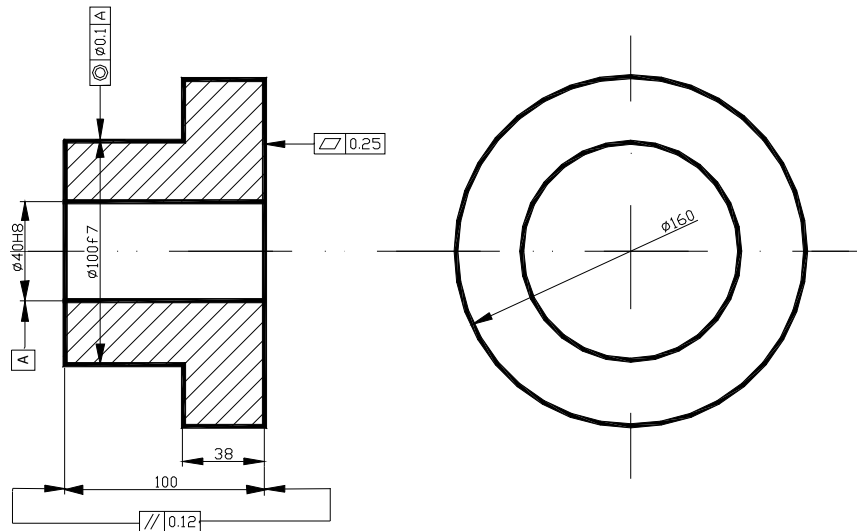

Fig. 6.5
6.3.2 GEOMETRIC TOLERANCE: it's the maximum permitted variation of a form or its position from the perfect geometry (table 6.2 and Fig. 6.5).